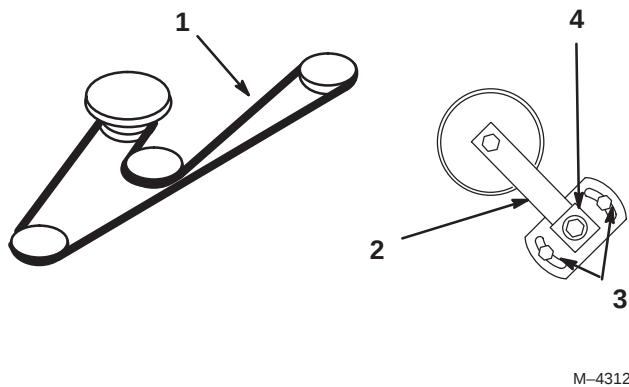

Figure 63
3. Loosen both nuts securing idler plate and move the idler arm to relieve belt tension on the idler pulley, then remove the worn deck belt (Fig. 63).
4. Install the new deck belt around the spindle pulleys, belt guide, the idler pulley, and in the lower groove of the center spindle pulley (Fig. 63).